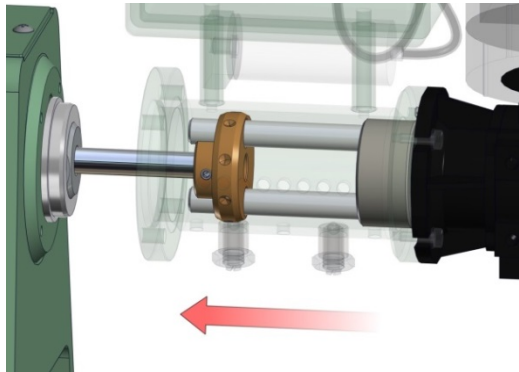

Figure 4.8.7
7. Install the Motor and Control Housing Configuration (Item 6, Figure 7.1) onto the Universal Strength Machine Base (Item 1, figure 7.1) by sliding the two Housing Pins (Item 6, Figure 7.4) (located inside the Cylindrical Housing Unit) through the two holes in the Rotary Disk. See Figure 4.8.7 below.